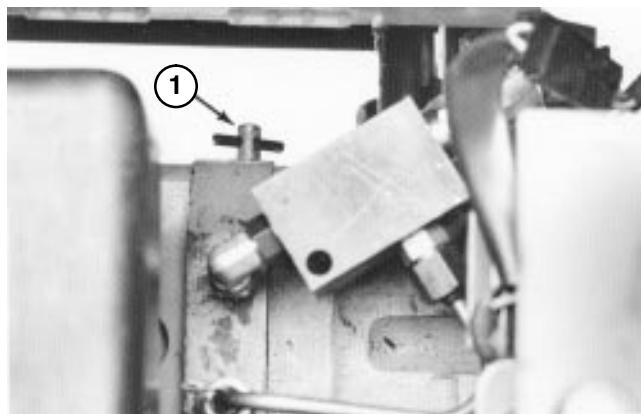

Figure 15
- Reach in and rotate by-pass valve on transmission (Fig. 15) counterclockwise 1/2 to 1 turn. Opening the valve opens an internal passage in the pump, thereby bypassing transmission oil. Because fluid is by-passed, the machine can be pushed without damaging the transmission.